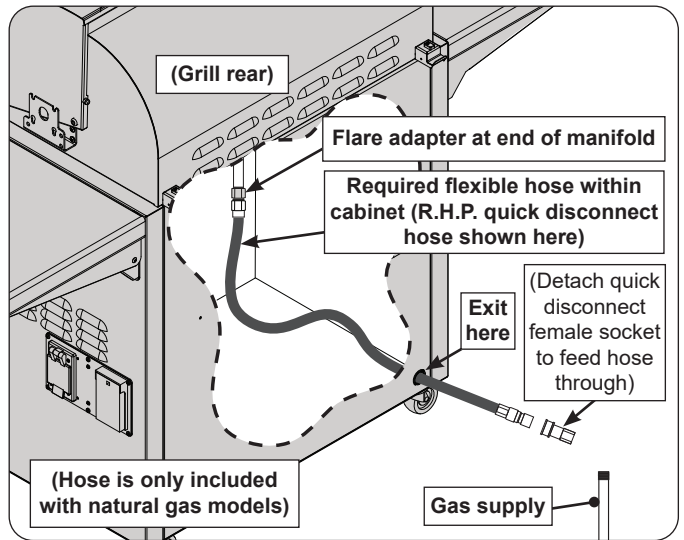

Fig. 24-1 Flexible hose assembly detail
2. Household propane only: A regulator hose assembly designed for L.P. cylinders comes pre-installed to the unit valve manifold. First remove this assembly from the flare adapter (at end of manifold), and then install a quick disconnect hose or similar (purchased separately) to the adapter. (An R.H.P. quick disconnect hose is recommended - see third bullet above.) Use a pipe joint compound resistant to all gasses on all NPT pipe fittings except flare fittings. Reference Fig. 24-1. Then proceed to step 3.
3. Route the quick disconnect hose (or similar) out of the hole in the rear bottom right of the cabinet, and to the gas supply (see Fig. 24-1).